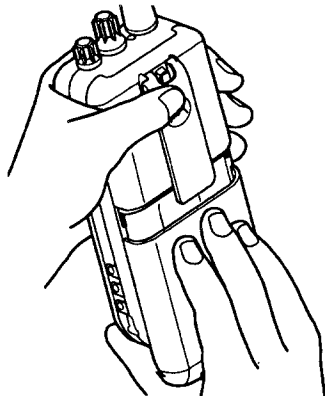

Figure 1-2. Slide Battery Cover
2. Slide battery cover down and away from radio to remove (Figure 1-2).